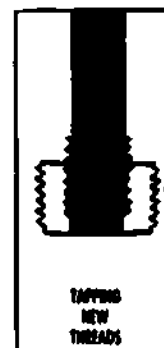

Fig 1-117. Tap end.
**Tap end.** This is used to straighten out the threads at the point where the fitting was removed (fig 1-117).